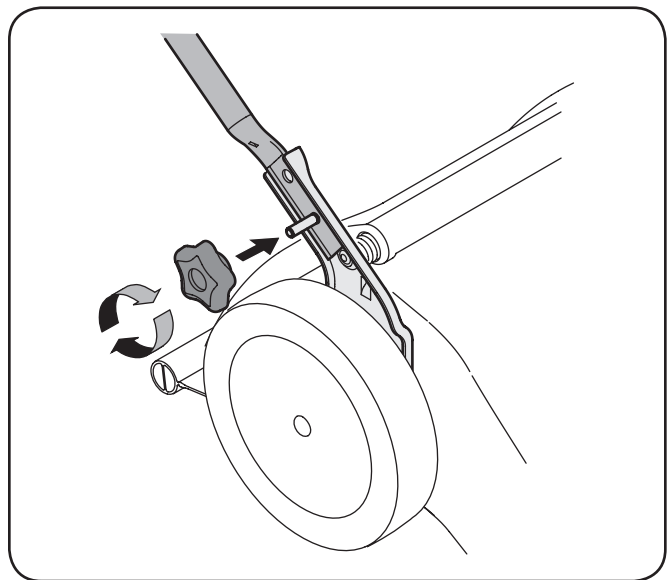

Figure 3-2
- Tighten star knobs securing lower handle to handle brackets. See Figure 3-2. Make certain the lower handle is seated securely into the handle mounting brackets.